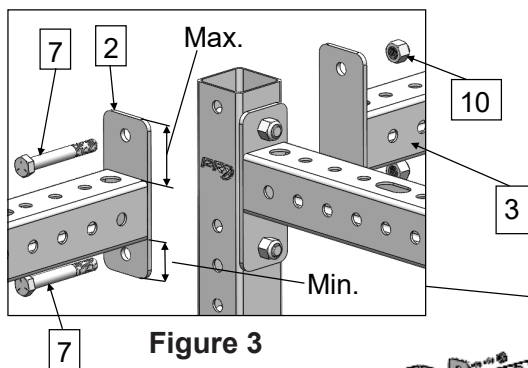

Figure 3
1. With someone holding the middle frame, attach the 42" and 18" crossmembers to the bottom of the frame. When attaching the crossmembers, be sure to orient them correctly (see Min. and Max. in Figures 3 & 4). The crossmembers need to be assembled this way for future accessories to fit properly.
2. Attach 42" and 18" crossmembers to the top of the frame (Figures 3 & 4).
3. Next, attach the front and rear uprights to the newly installed crossmembers (Figures 3 & 4).